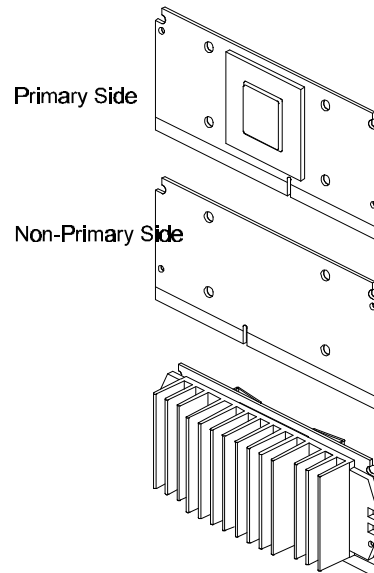

Figure 2-1
Figure 2-1 shows the primary and non-primary side of Celeron processor without heat sink mounted and with heat sink mounted.
1. Finds out the Heat Sink Support (HSS) Mounting Holes on HOT-671 main board. Notice that one hole is larger than the other hole. (Refer to Figure 2-1)